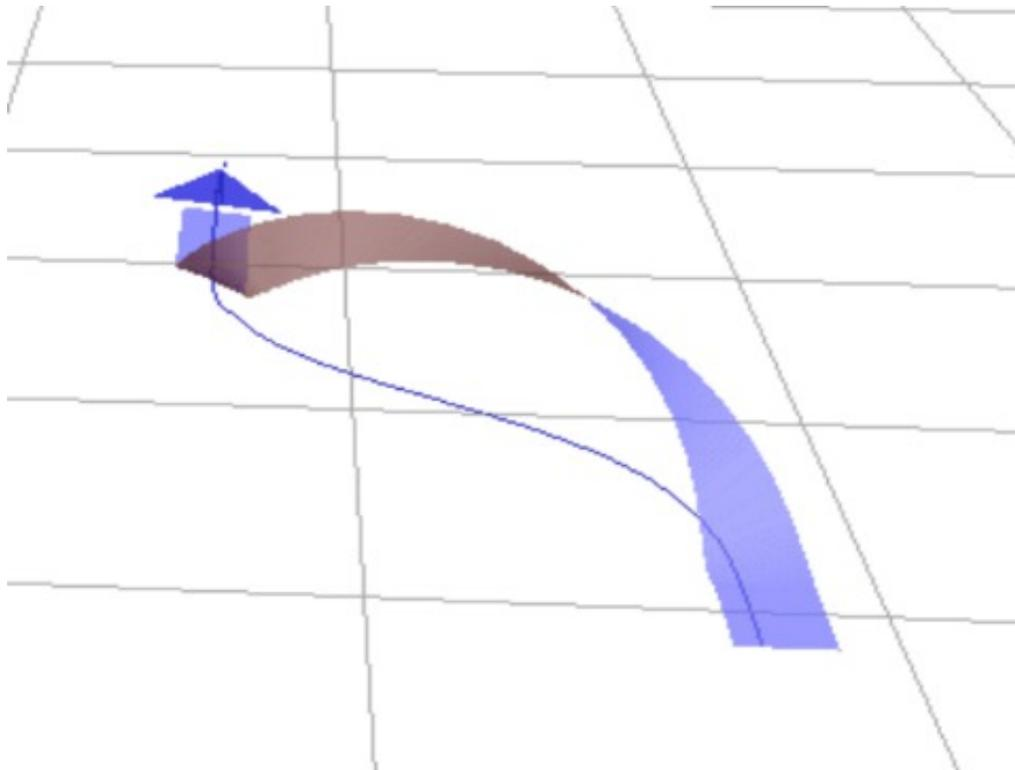

Figure 8.10: Diagram of a barrel roll. Thanks to MioUzaki for releasing this image into the public domain.
- barrel rolls—often described as “a cross between a roll and a loop” (see Figure 8.10)